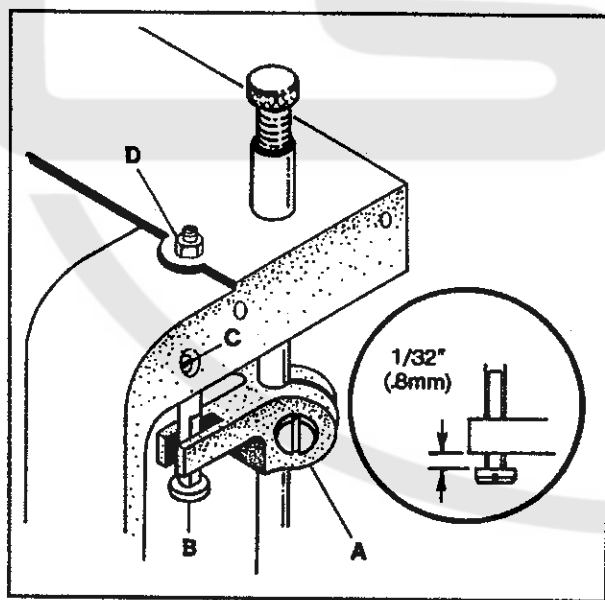

FIG. 36
Turn handwheel in operating direction until the feed dogs are below the throat plate surface. At this time there should be a  $1/32"$  (0.8mm) clearance between the bottom of presser bar guide (A, Fig. 36) and presser bar guide stud (B). Loosen screw (C) and turn nut (D) as required. Tighten screw (C). When sewing on extremely lightweight material and/or feed cutting is a problem, the presser foot may be "hung" by raising stud (B) until guide (A) rests on the shoulder of stud (B). This adjustment will raise the presser foot slightly, so only the pressure of the presser foot shoes contact the material.